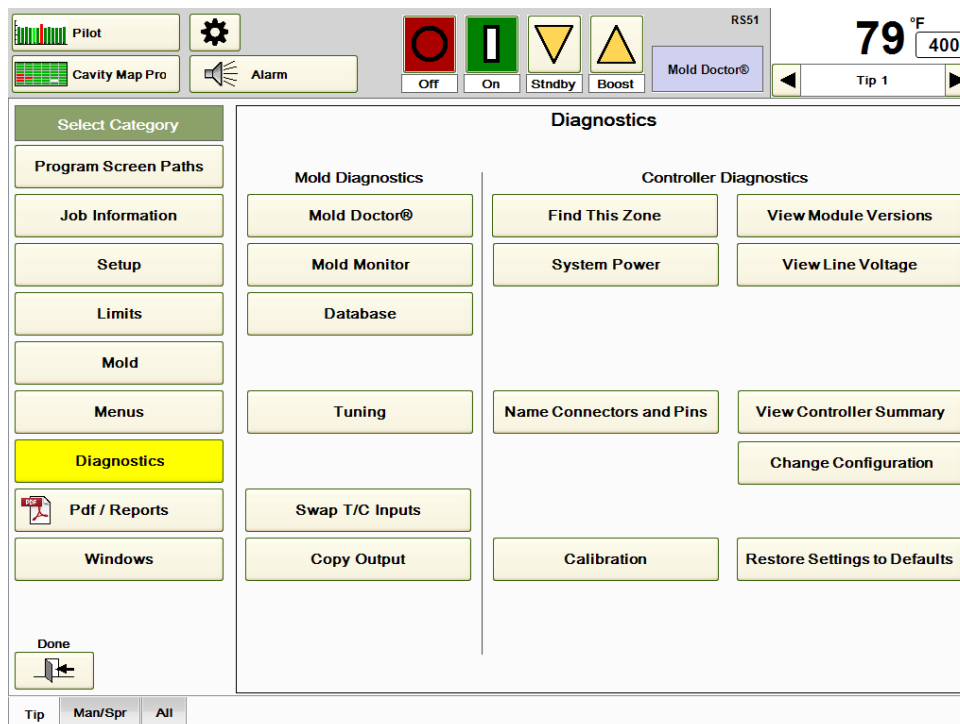
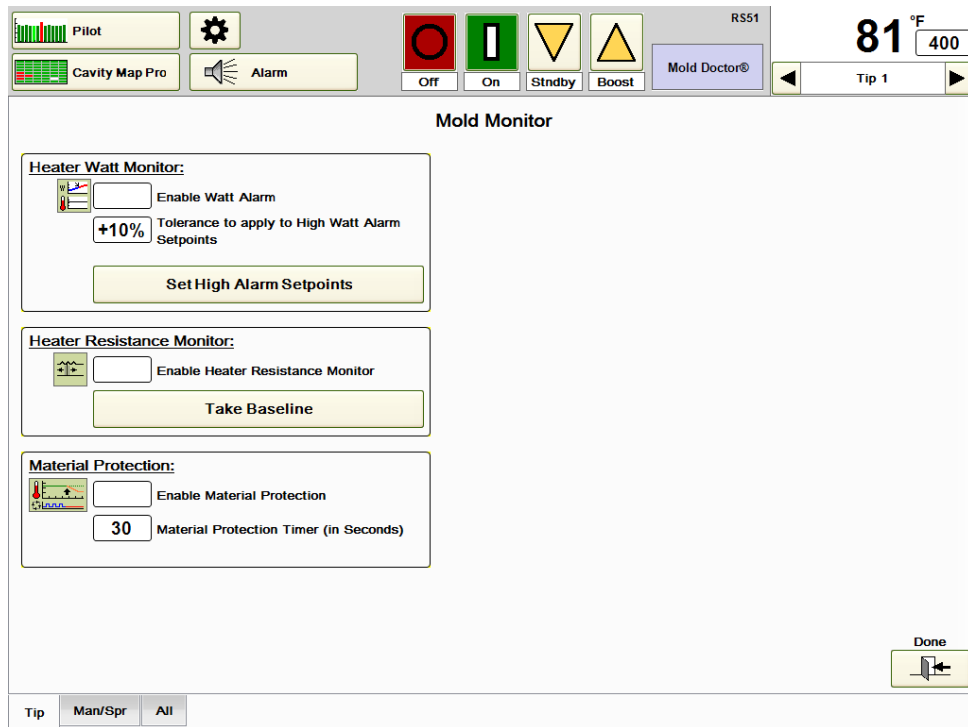

Figure 20a Diagnostics
Figure 20b Mold Monitor
Heater Watt Monitor: This function will cause a zone's Watt Alarm to activate when the wattage of the zone exceeds the normal wattage plus the % tolerance setting. This can be an excellent tool in detecting material leaks in the mold. Typically, when material leaks into the air spaces of a tool, the material acts as a heat sink, pulling heat away from where it is supposed to go. This causes the heaters near the leak to work harder to maintain setpoint which means more wattage will be applied. By detecting this abnormal level of wattage in a zone, the HPS-C-PRO⁺ thereby provides an early warning of a leak. Catching the problem early can greatly minimize the time needed to clean up the leak in the tool. Press the **Mold Monitor** button shown in Figure 20a to display the Mold Monitor screen shown in Figure 20b. To set up the Watt Alarm:
- 3) Enter the desired timer setting in the **Material Protection Timer** box. This setting determines the time the signal from the injection molding machine must be absent before the zones are shut off. For example, if 30 seconds is used as shown in Figure 20b, the zones in the Remote Standby Group will go to Standby if the HPS-C-PRO⁺ does not receive a signal from the machine within 30 seconds. The timer will not be active until all low temperature alarms have cleared on startup. If the timer times out, the timer must be reset by pressing the **Material Protection Alarm** button (Section 8) on the Alarm screen. Default setting is 0 seconds. Range is 0-999 seconds.